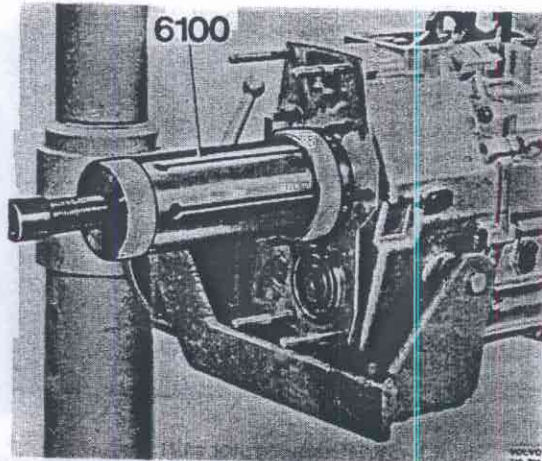

Fig. 43-54. Removing rear bearing
13. Remove the circlip for the output shaft bearing. Remove the shims behind the circlip. Remove the bearing with 6100, Fig. 43-54. Turn the gearbox.